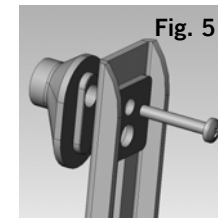

Fig. 5
For best fit on this type of display, install the 5/8" spacer (M) (Fig. 5) between the display and the mounting rail.